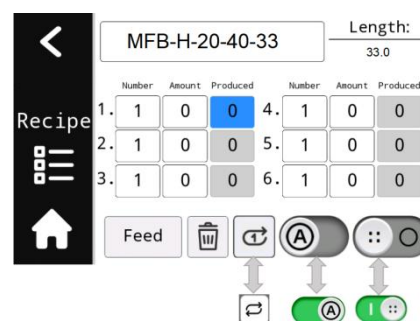

Figure 6
1) Tap  on the home page to enter the mode. (Figure 6)